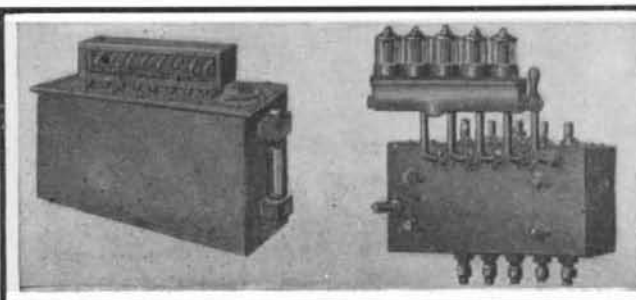

Fig. 6.—TYPES OF FORCE FEED LUBRICATORS.
**Mechanical Force Feed System (Fig. 6).**—This system employs pumps which are mechanically driven by belts, chains, etc., from the camshaft. Generally we find two pumps for each feed. All are, however, housed in one casing, which acts as an oil reservoir and is generally fastened to the dashboard. One pump